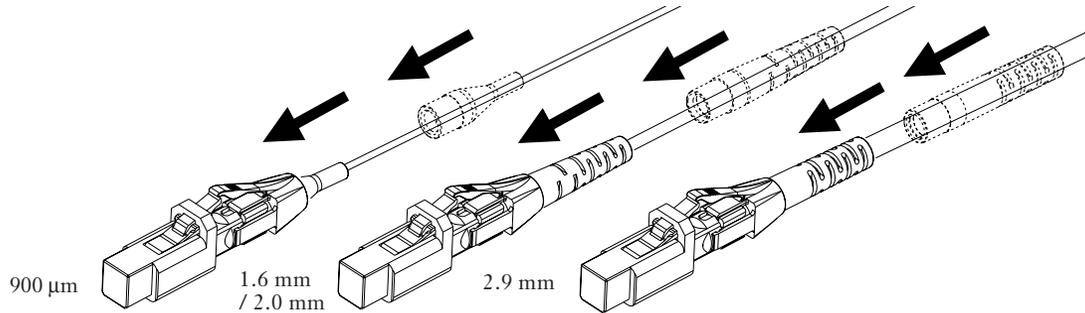

Figure 4-47
**4.8-15** While holding the connector by the front dust cap, slide the strain relief boot up the back of the connector and under the trigger until it stops (Figure 4-47).